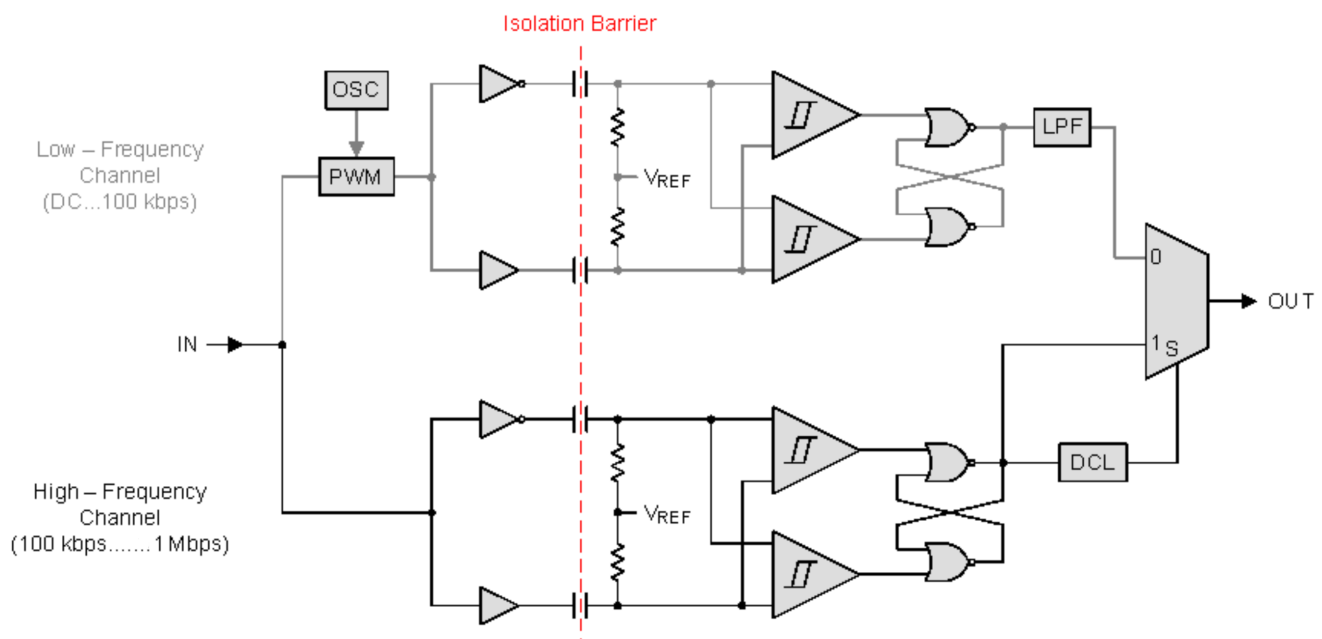

Figure 9. Conceptual Block Diagram of a Digital Capacitive Isolator
The isolator in Figure 9 is based on a capacitive isolation barrier technique. The I/O channel of the device consists of two internal data channels, a high-frequency channel (HF) with a bandwidth from 100 kbps up to 1 Mbps, and a low-frequency channel (LF) covering the range from 100 kbps down to DC. In principle, a single-ended input signal entering the HF-channel is split into a differential signal via the inverter gate at the input. The following capacitor-resistor networks differentiate the signal into transients, which then are converted into differential pulses by two comparators. The comparator outputs drive a NOR-gate flip-flop whose output feeds an output multiplexer. A decision logic (DCL) at the driving output of the flip-flop measures the durations between signal transients. If the duration between two consecutive transients exceeds a certain time limit, (as in the case of a low-frequency signal), the DCL forces the output-multiplexer to switch from the high- to the low-frequency channel.